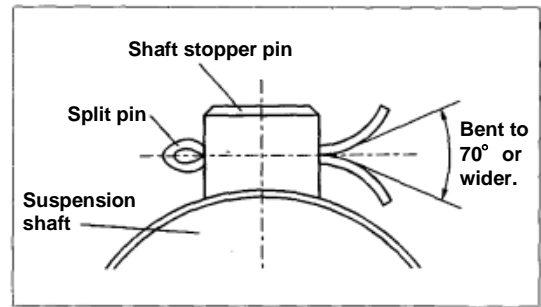

Fig. 7
- (3) Bend the split pin of the shaft stopper pin as shown in Fig. 7.
- (b) When there is no space between the end of beam and building, first remove the side plate S from the suspension shaft. After placing the side plate G on the other side of the flange, reassemble and re-install side plate S as it was before. Also, bend the split pin of the shaft stopper pin correctly as shown in Fig. 7.